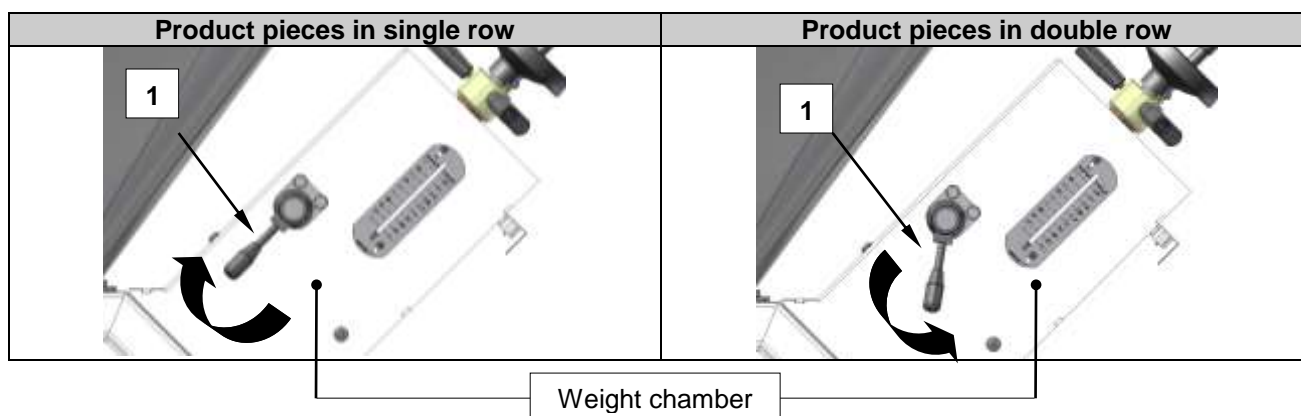

Figure 21 – Selection of product pieces into one or two rows
2. Use the lever ref. 1 Figure 21 to select the number of rows: the production of one or two rows of pieces (this is not applicable for the models Calybra 0.2, Calybra 1.0 and Calybra 1.0 L, which can only produce pieces in a single row); the lever is located on the side of the weight chamber. The two positions of the lever and their relative meanings are clearly indicated on the machine. **IMPORTANT! Do not move the lever while the machine is being operated as this can cause serious mechanical damage.**